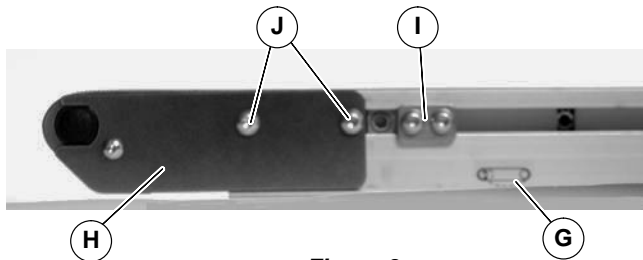

Figure 3
NOTE: Tension end of conveyor is identified with a  label (G of Figure 3).
8. If equipped with cam tracking assemblies (I of Figure 3), reposition and adjust belt tracking. Refer to “Conveyor Belt Tracking” on page 9.